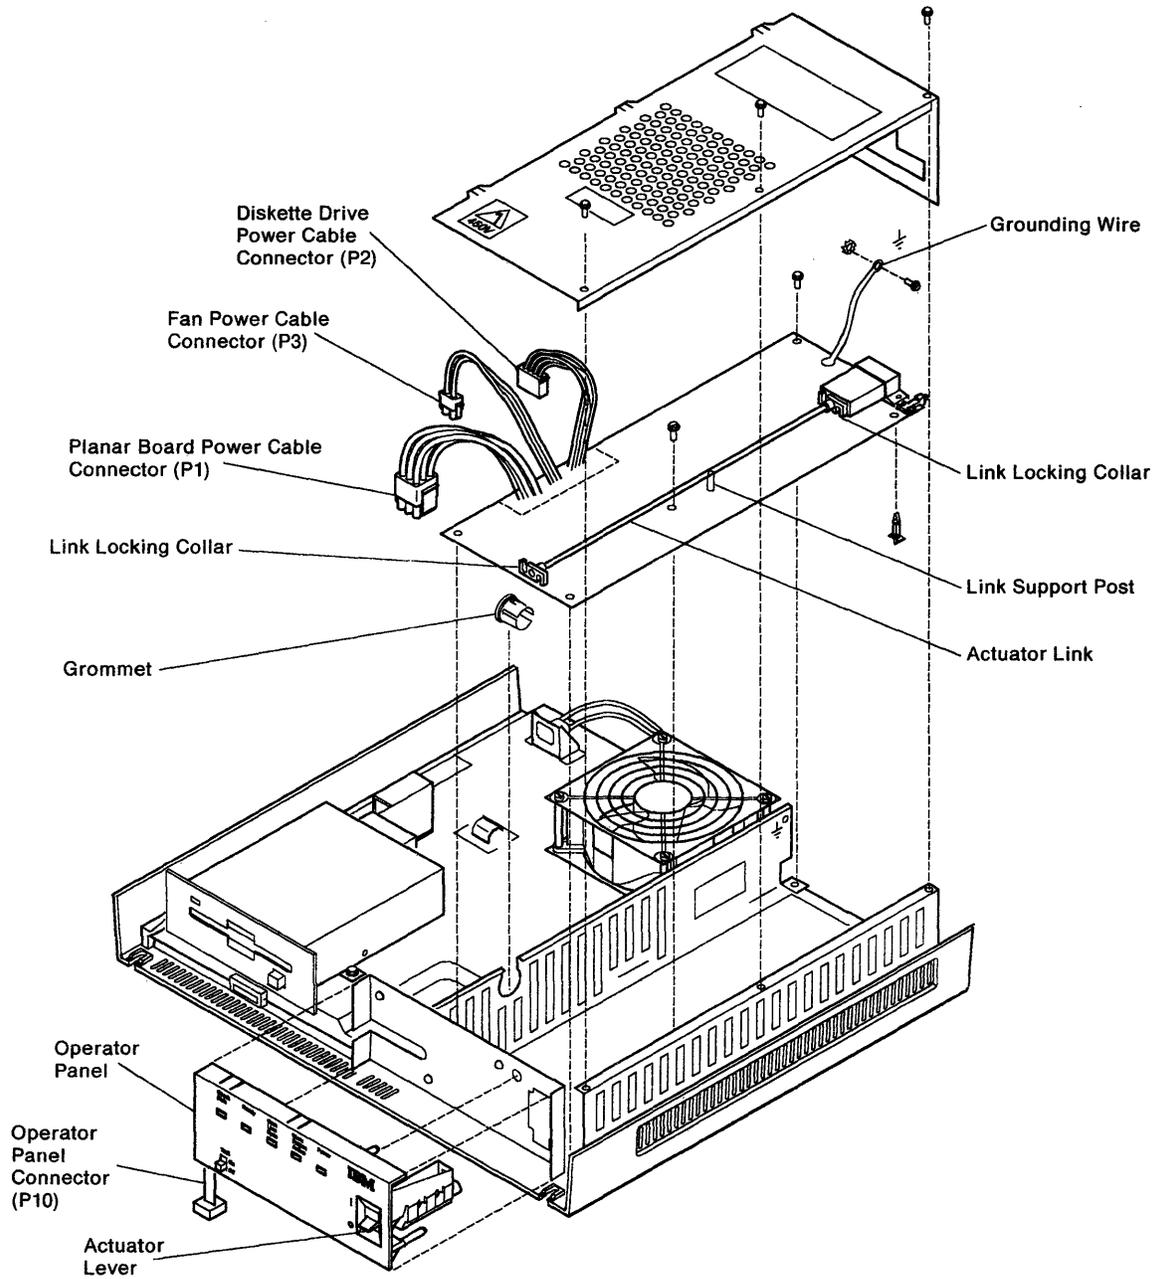

Figure 3-29. Power Supply and Operator Panel Removal and Replacement
2. Use Figure 3-29 on page 3-34 to do the following steps.
2. See Figure 3-29 on page 3-34.